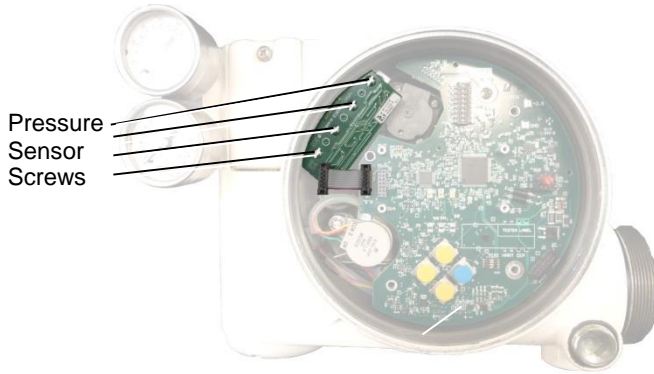

Figure 37: Pressure Sensor Board
- 5 Unplug the pressure sensor connector from the main board (See Figure 37).
- 5 Plug the pressure sensor connector into the main board (See Figure 37).
- 8 Unplug the pressure sensor board connector from the main board. See Figure 37.